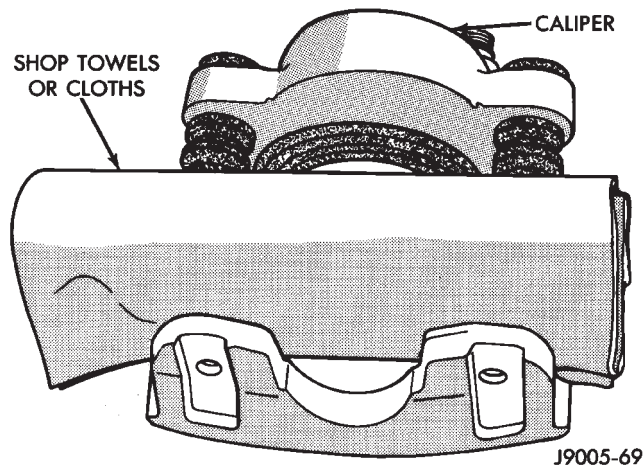

Fig. 15 Padding Caliper Interior To Protect Piston During Removal
- (1) Remove brakeshoes from caliper.
- (2) Pad interior of caliper with minimum, 2.54 cm (1 in.) thickness of shop towels or rags (Fig. 15). Towels are needed to protect caliper piston during removal.